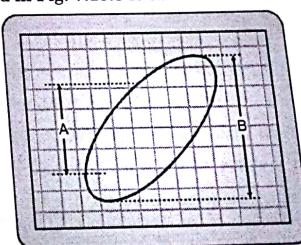

Fig. 7.15.8
- (II) XY method :
- (1) This method makes use of Lissajous pattern.
- (2) The time/div knob is set to X-Y EXT state. In this state, the signal given to CH1 acts as the sweep signal.
- (3) The vertical mode switch is kept in X-Y position. An ellipse such as the one illustrated in Fig. 7.15.8 is obtained on the CRO screen.